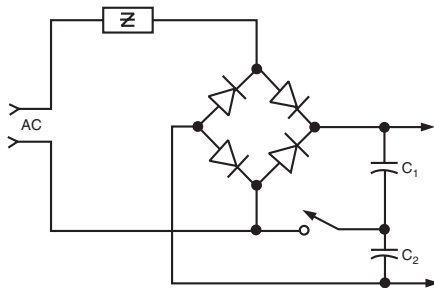

Figure 1. Basic Line Rectifier and Filter for SMPS Operating from 120/240 V Lines
Most SMPS have an input network as shown in Figure 1. The impedance is used to limit start-up inrush current without causing excessive power loss. The series impedance may be a thermistor or a resistor which is often shunted by a triac to reduce power loss after start-up.
Measured voltage transients for some different capacitors when pulsed with 500 A in the circuit of Figure 1 are shown in Table 1. With a 3000 A pulse, overshoots of 6 times the values shown would occur. In all cases of 240 V input, the transient voltage exceeds the typical 250 V surge rating of a 200 V capacitor. Even worse, the DC bus - possibly at about 400 V because of high line, low load condition - is now up to at least 560 V! No wonder power switch failures occur in seemingly well designed systems.
**TABLE 1 - TRANSIENT PERFORMANCE OF THE CIRCUIT OF FIGURE 1**